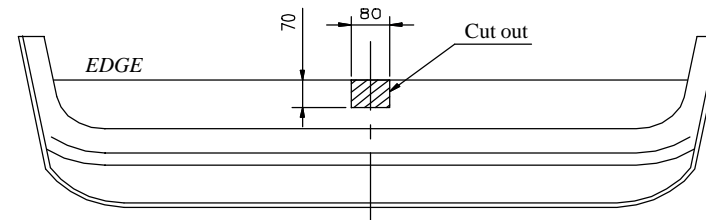

Fig. 2
2. In bottom part of the bumper cut out the hole as show in the fig. 2
4. Put bar of the towbar (pos. 1) into the chassis member and fix with bolts M10x35mm (pos. 6), use big washers $\phi 30 \times \phi 10.5 \times 2.5 \text{mm}$ (pos. 9).
5. Put brackets (pos. 4 and 5) to the rear piece and fix it through holes pos. A to the bar of towbar using bolts M8x30mm (pos. 7), use big washers $\phi 24 \times \phi 8.4 \times 2 \text{mm}$ (pos. 10).
6. Through holes (pos. B) in brackets (pos. 4 and 5) fix nuts M8 with big washers $\phi 24 \times \phi 8.4 \times 2 \text{mm}$. Take care at the torque moment - **10 Nm**.
7. Through holes (pos. C) in brackets (pos. 4 and 5) make holes with drill $\phi 9 \text{mm}$, and next fix with bolts M8x30mm (pos. 7).
8. Fix body of the automat and place tow-ball according to supplied instruction. Note! Remember to place socket plate (pos. 3) as shown on the drawing 1.